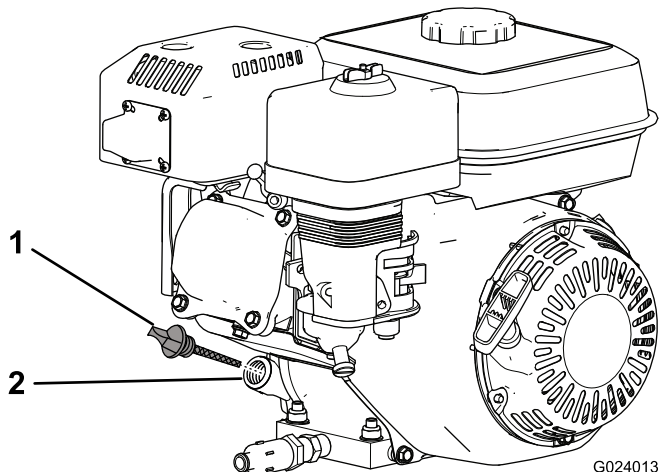

Figure 13
2. Stop the engine, wait for it to cool, and clean the area around the oil filler cap/dipstick (Figure 13).